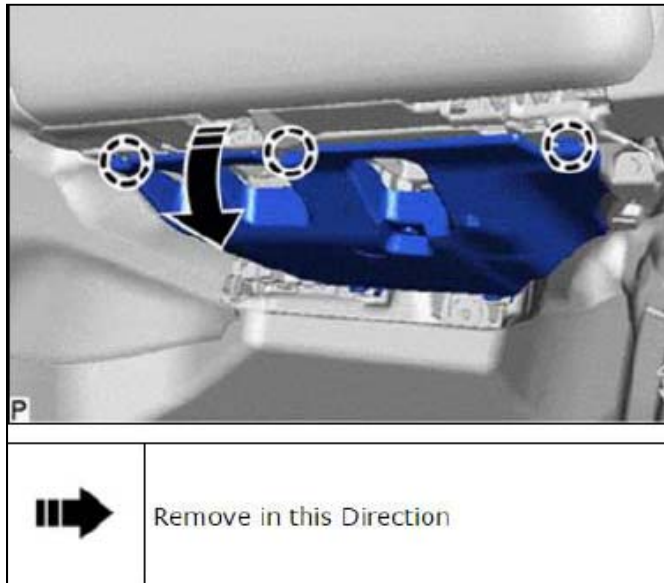

Figure 23
- a. Disengage the 3 claws as shown in the illustration. See Figure 23.